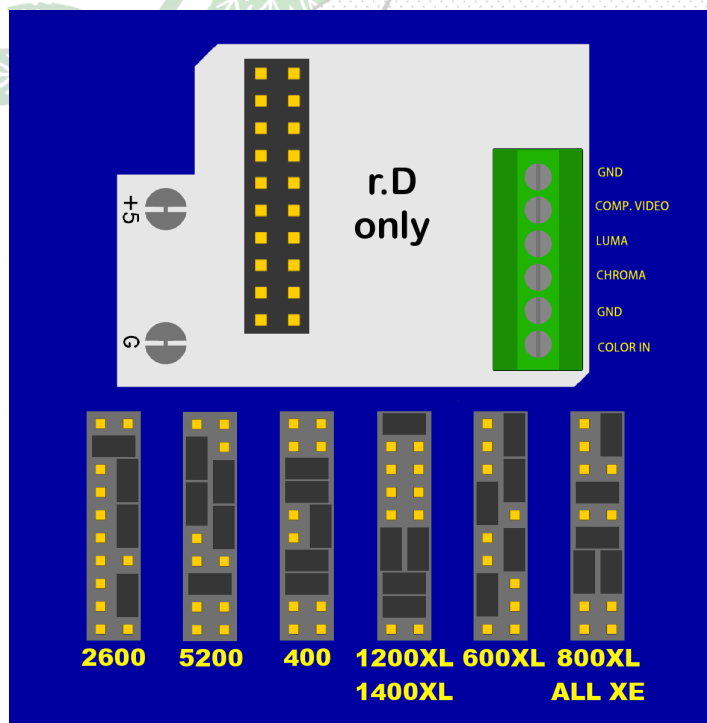

Figure 1: Jumper settings for UAV rev. D
- b. Hold on to the 4050 as we'll be using it later (Fig. 1, 2).